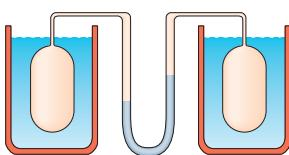

Figure 18-30 Problem 3.
- 3 A gas thermometer is constructed of two gas-containing bulbs, each in a water bath, as shown in Fig. 18-30. The pressure difference between the two bulbs is measured by a mercury manometer as shown. Appropriate reservoirs, not shown in the diagram, maintain constant gas volume in the two bulbs. There is no difference in pressure when both baths are at the triple point of water. The pressure difference is 120 torr when one bath is at the triple point and the other is at the boiling point of water. It is 90.0 torr when one bath is at the triple point and the other is at an unknown temperature to be measured. What is the unknown temperature?